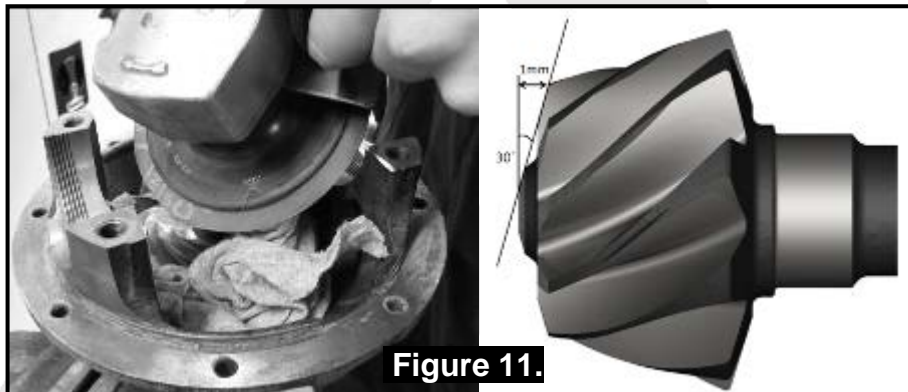

Figure 11.
- Use a 102mm [4.0"] or 127mm [5.0"] angle grinder and grind the ends of the pinion gear to a 30° angle at 1mm depth (Figure 11.).
- Set a depth indicator on one of the ring gear teeth (Fig.11.).